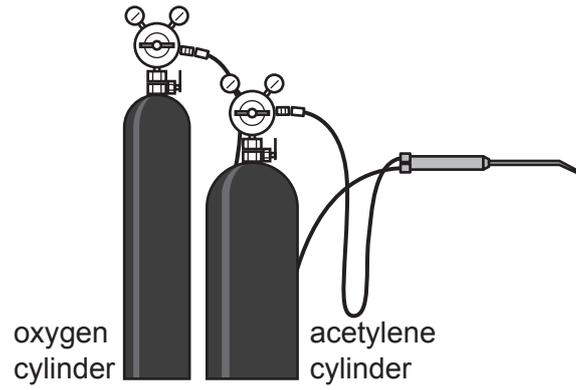

Fig. 9.1
- 9 Fig. 9.1 shows items of equipment used in a process to join metals together permanently.